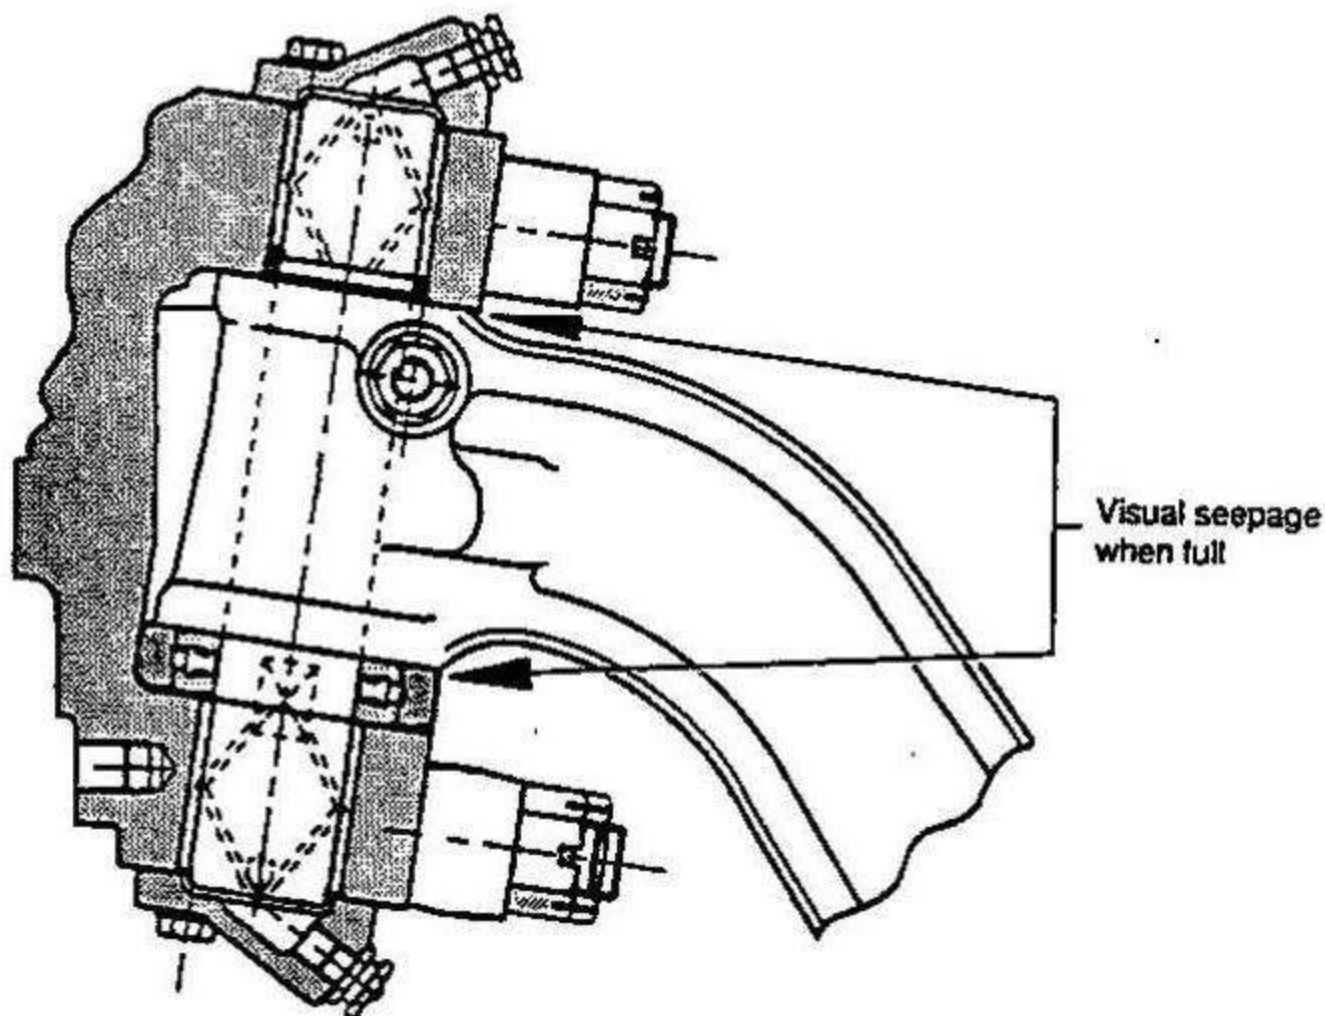

Fig. 4
- f) Charge swivel assembly with grease (Shell Retinax LX or equivalent), swivel is full when grease seeps between upper face of axle bed (28) and swivel bush seal (31), also from between thrust bearing seal (32) and lower face of axle bed. See fig 4.